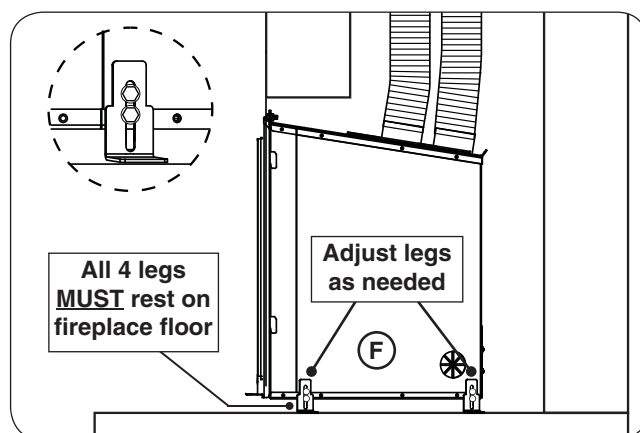

Fig. 27-3 Use adjustable legs to level (as needed)
- The unit has four adjustable legs for leveling purposes. Adjust each leg as needed to level the unit. Ensure each leg rests on the fireplace floor. Use a  $\frac{5}{16}$ " nut driver to loosen the two hex screws on a leg, move it to the required height, and then re-tighten the screws. See Fig. 27-3, F.